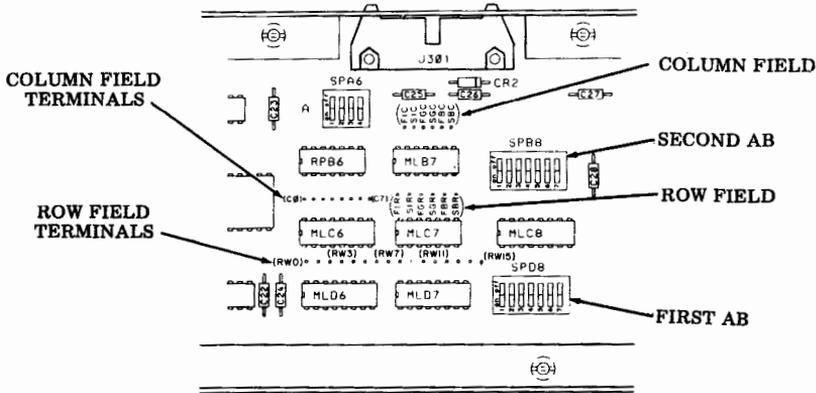

Fig. 8—430916 Circuit Card
- ② Remove paper and paper holder or paper supply assembly, if present. To remove paper supply assembly, disengage latch from mounting posts and pull straight up. Slide off of mounting posts.
- ③ Remove screws, screws with bushings or mounting posts.
- ④ Remove deflector, if present.
7.02 Call Directing Codes (CDC) are optioned by wiring from the column field to the column field terminals and from the row field to the row field terminals (see Fig. 8 and 9). Refer to Fig. 10 to determine the correct column and row for the characters to be optioned as the CDC's. Two straps are required for each character to be coded, one to the column field terminals and one to the row field terminals. Fig. 11 and 12 show an example of CDC wiring where the individual CDC is AA, the group CDC is XY and the broadcast CDC is BB.